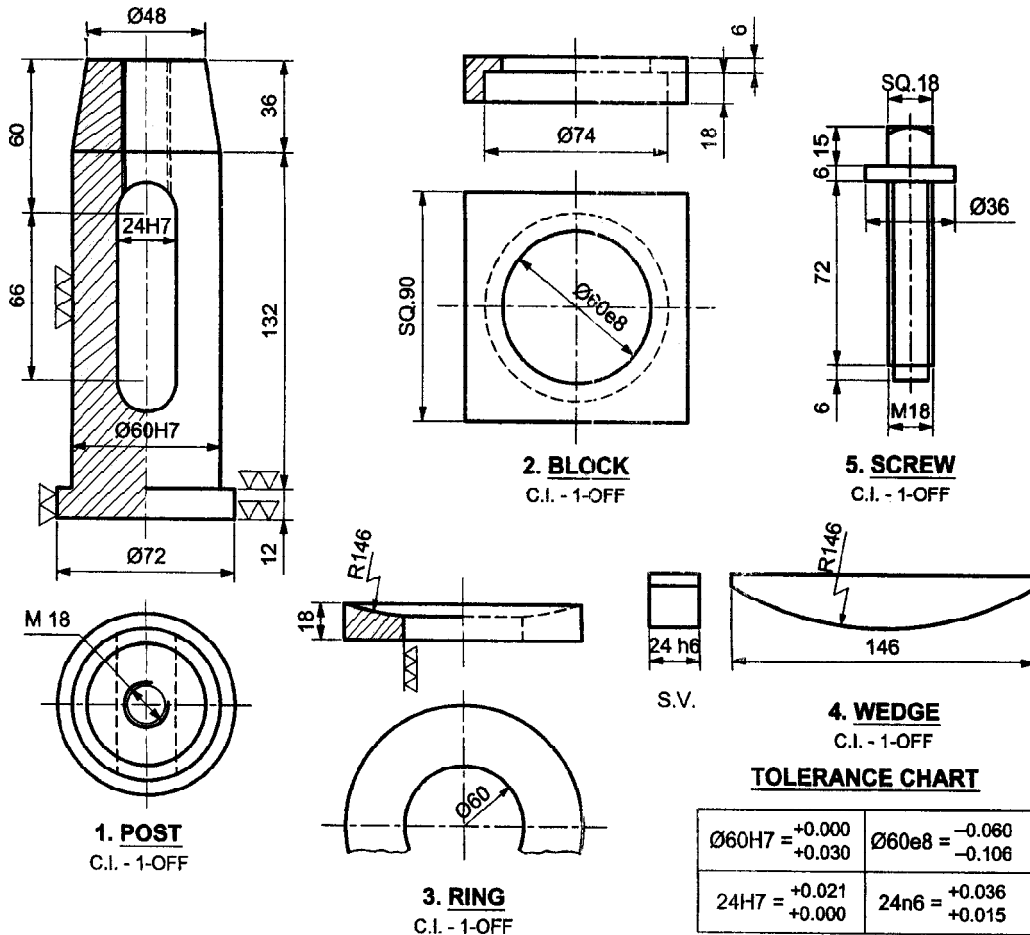

Fig. No. 4
- a) Fig. No. 4 shows the details of lathe tool post. Draw sectional F.V and T.V of the assembly. Prepare bill of material. Indicate type of fit.